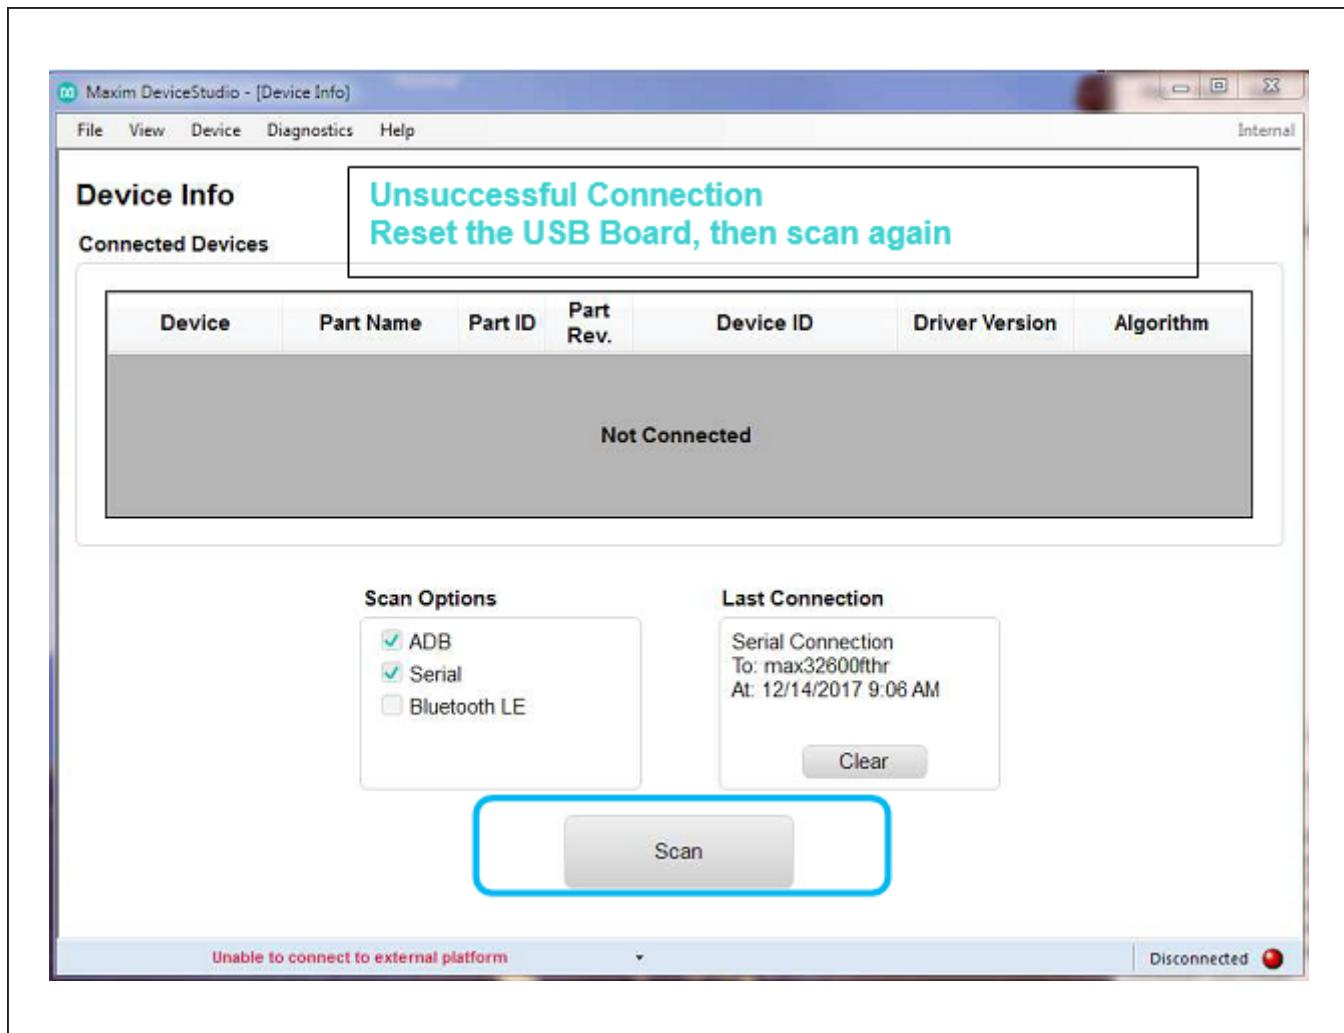
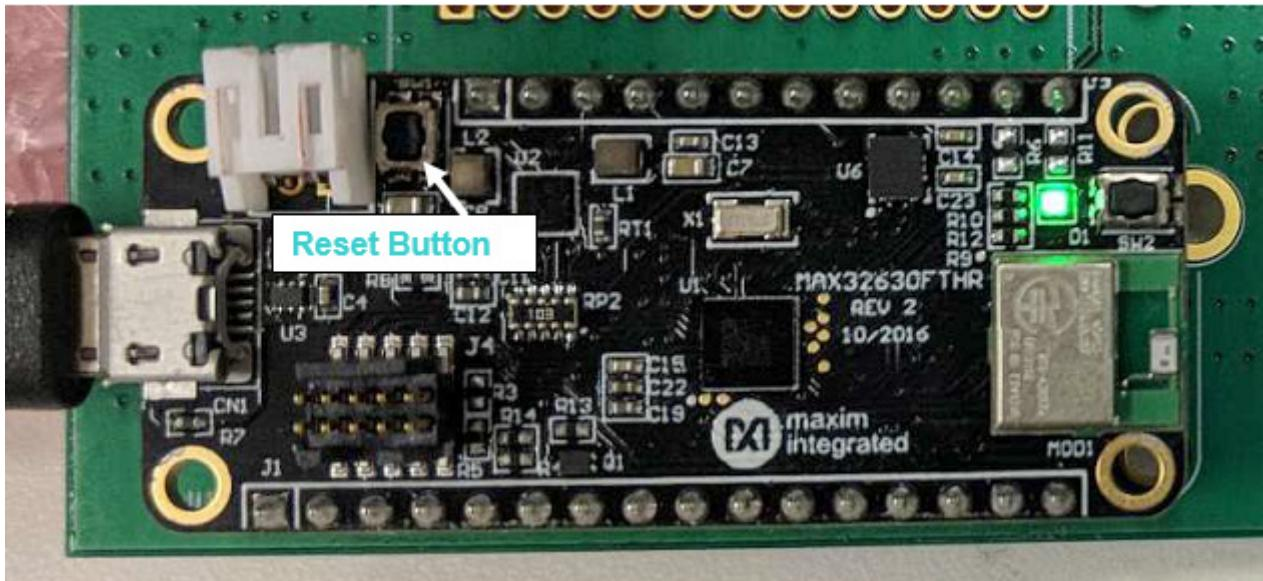

Figure 3. MX3523 EV Kit GUI, Unsuccessful Connection
Figure 4. MAX3523 EV Kit USB Communication
5) In rare case DeviceStudio fails to find MAX3523 EV Kit, push the reset button (see Figure 4), hold for 2 seconds, and release. Then click the Scan button at DeviceStudio (see Figure 3).